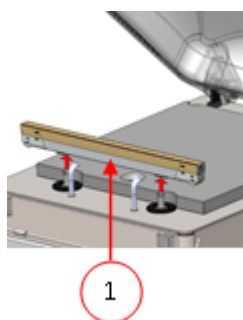

Figure 15: Removing the Sealing Bar
1. Remove the sealing bar by lifting it from the cylinders. See *Figure 15: Removing the Sealing Bar* on page 58.